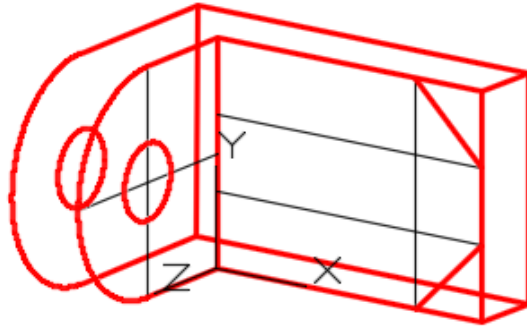

Figure Step 14
Step 14 Draw the necessary construction lines using the OFFSET command. Change their layer to layer: Construction. Draw the object lines as shown in the figure. (Figure Step 14)